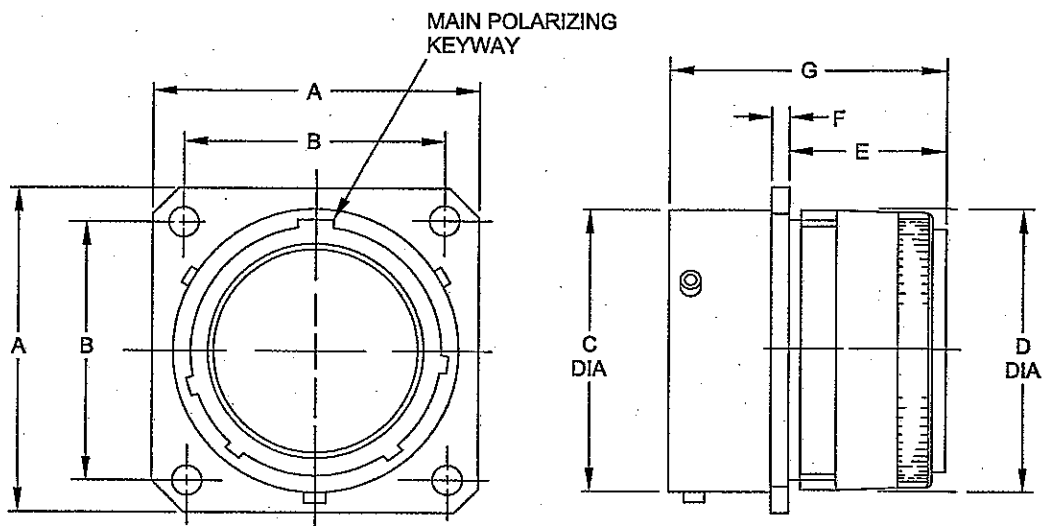
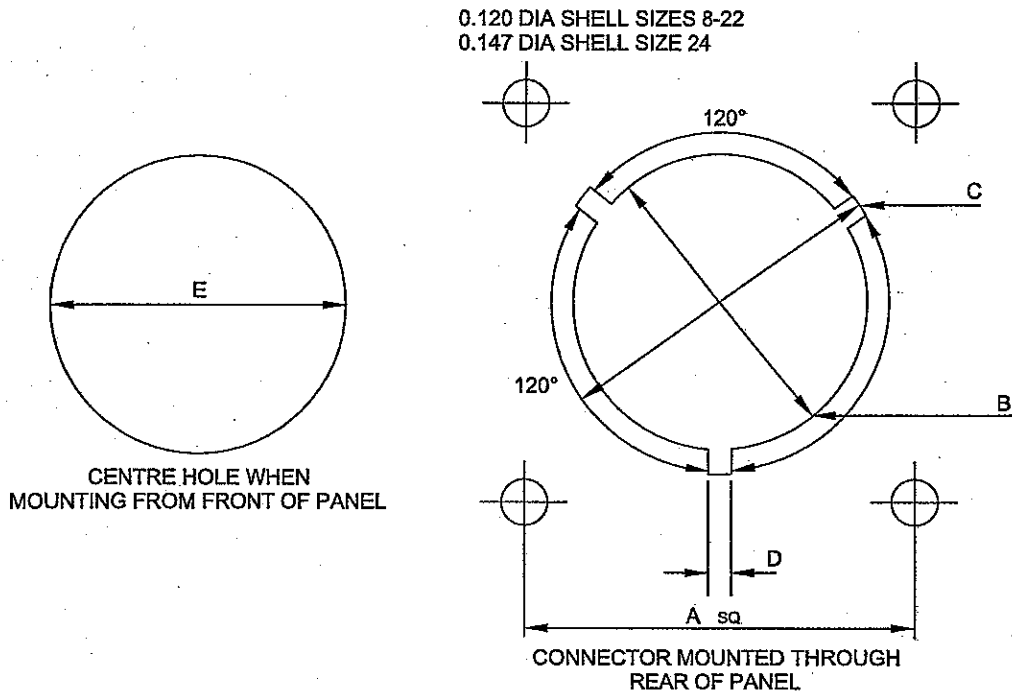

Fig 9 460 Square flange receptacle, dimensions
Fig 10 460 Square flange receptacle, panel cut-out dimensions
9.2 Details of the 460 receptacle are given in Fig 9 and Table 5. Panel cut-out details for mounting the connector are given in Fig 10 and Table 6.